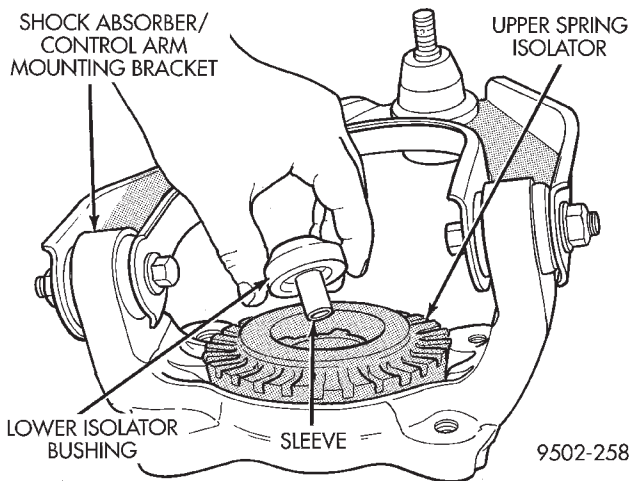

Fig. 23 Shock Absorber Rod Lower Isolator Bushing And Sleeve
(17) Remove the shock absorber rod lower isolator bushing and sleeve (Fig. 23) from the shock absorber/upper control arm mounting bracket. Then remove upper spring isolator (Fig. 23) from mounting bracket.
(3) Install the lower isolator bushing and sleeve (Fig. 23) in the shock absorber/lower control mount-
ing bracket. Install the coil spring upper isolator on the mounting bracket (Fig. 23).